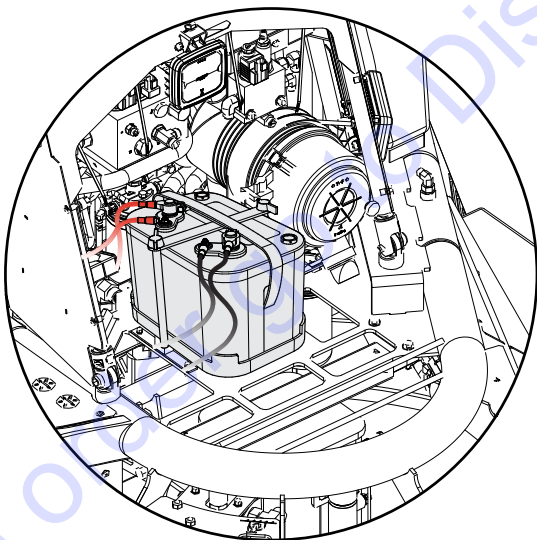

Figure 16. Battery Box
3. To install the battery on the trowel, make sure that the battery is well seated in the battery box (Figure 16).